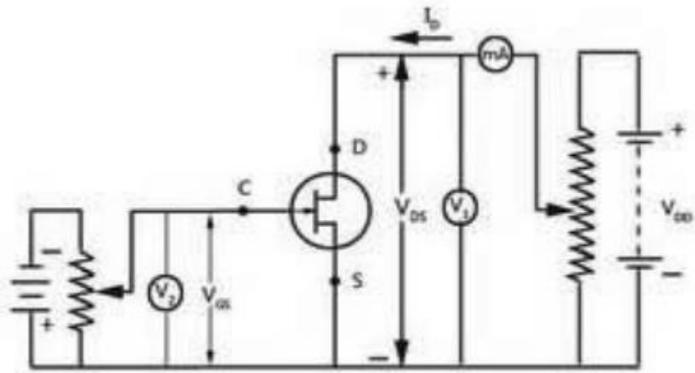

Figure 18.3: Circuit diagram of common source JFET
1. Connect the circuit as shown in figure 18.3